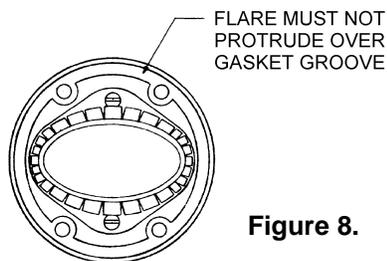

Figure 8.
10. When completed, the flare should be smooth and flat and must not protrude over the gasket groove. Clean the backnut face and waveguide flare of any grease, dirt or metal chips. See Figure 8.